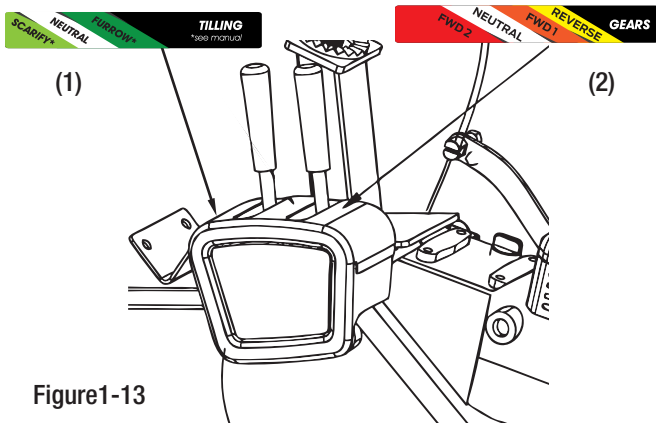

Figure1-13
- The gear box is located on the tiller frame. See Figure1-13